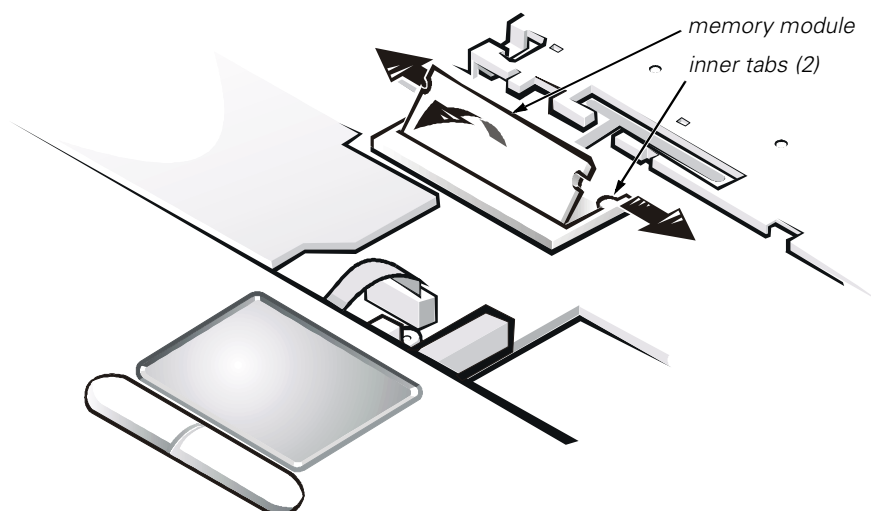

Figure 13. Memory Module Removal
4. To release the memory module from its socket, carefully spread apart the inner tabs of the memory module socket just far enough for the memory module to disengage from the socket (it should pop up slightly) (see Figure 13).
If you do not hear a click as each end of the memory module snaps into the tabs, remove the memory module and reinstall it (see Figure 13).